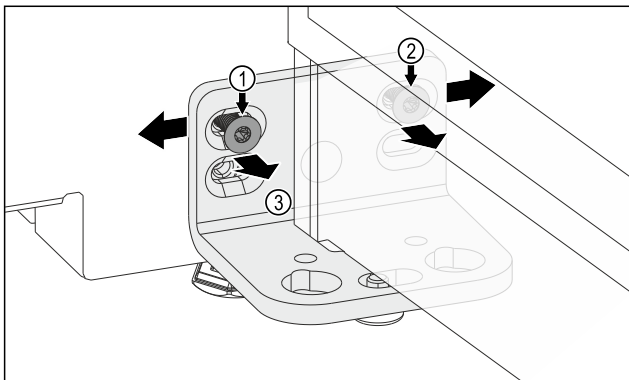

Fig. 12
- ▶ Tighten screw Fig. 12 (1) and loosen screw Fig. 12 (2). You will need a short angled screwdriver for the screw Fig. 12 (2).
- ▶ Move the door to the left with the hinge bracket Fig. 12 (3).
- ▶ Move the door to the right with the hinge bracket Fig. 12 (3).
- ▶ The door has reached its end position: Tighten screw Fig. 12 (1) and screw Fig. 12 (2).